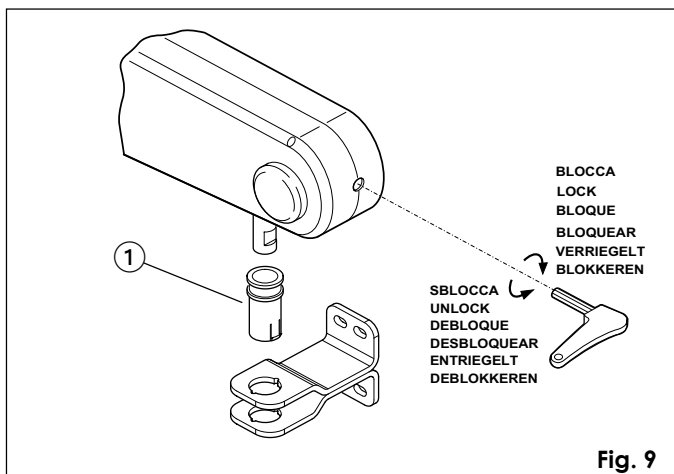
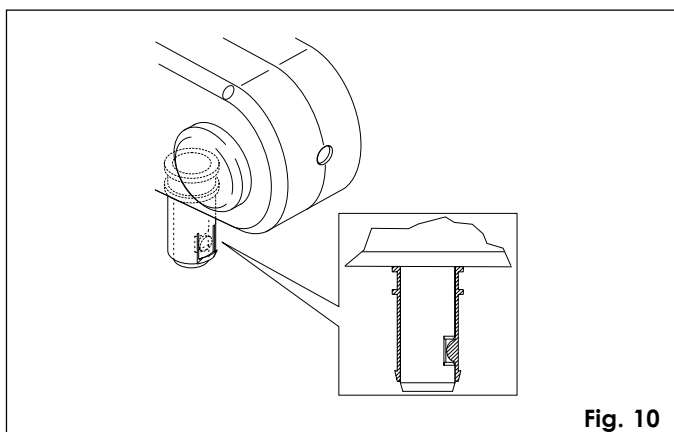

Fig. 9
Fig. 10
- **NB.:** the operator is supplied with a travel limit pin on the closed leaf position. If necessary, use the manual release (see chpt. 16), to take the operator pin to the closed position (the pin must be on the stop position on the front of the operator) - see fig.9.
- Turn the release key anti-clockwise for 5 turns as shown in figure 9.
- Insert the bracket bush (fig.9 ref. 1) in the front fitting (fig.9). Insert the operator so that the groove of the pin coincides with the mechanical stop on the bush (fig. 10).